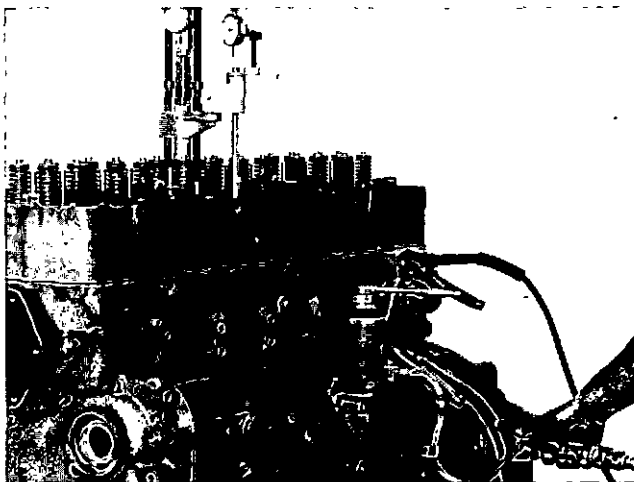

Fig. 14-34. Apply Air Pressure To The Actuator Housing.
- c. Apply air pressure to move the actuator plunger to the advance position, Fig. 14-34. The actuator plunger must move freely to the advance position.